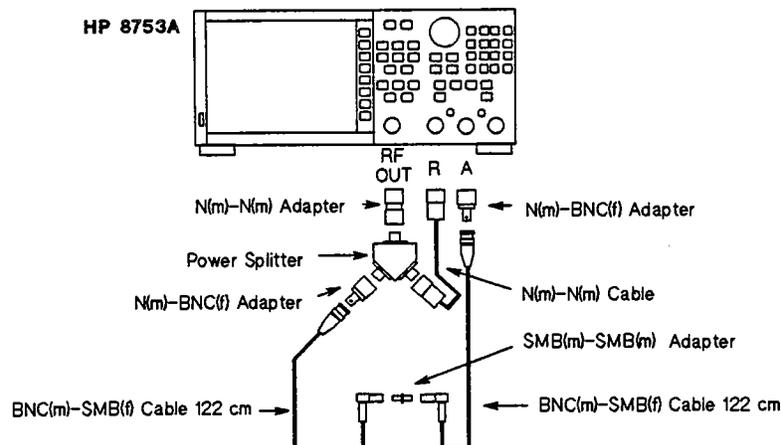

Figure 3-120. Source Output Filter Network Analyzer Setup
1. Connect the equipment as shown in Figure 3-120.